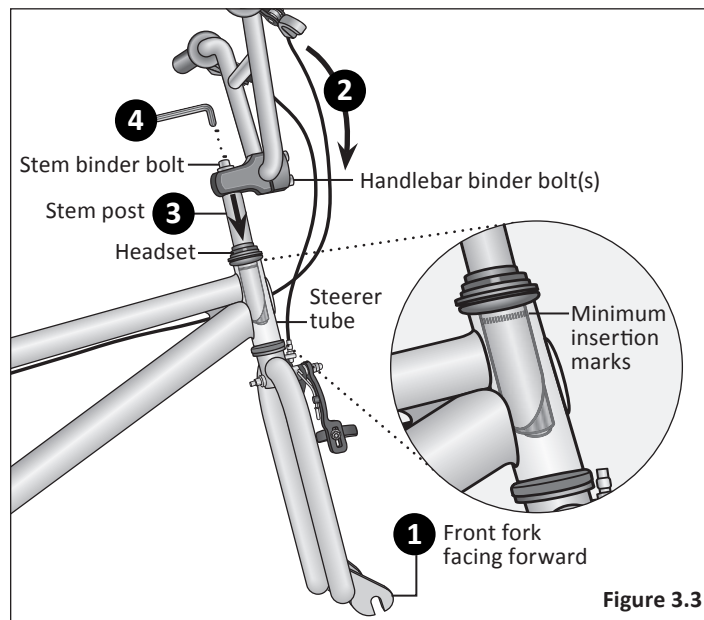

Figure 3.3
- 1 Turn the front fork to face forward. **Figure 3.3**
- 1 Turn the front fork to face forward (i.e. the fork dropout is in the furthest forward position). **Figure 3.3**